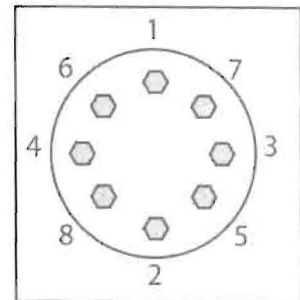

Figure 7
33. Reinstall the two right rear wheels. Refer to Figure 7 for proper lug nut tightening sequence. Tighten lug nuts until snug, then hand-torque to 140 ft-lbs., using the same tightening sequence.